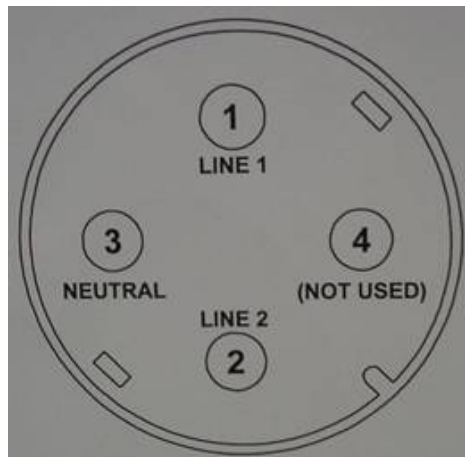

Figure 7 – Generator Receptacle Pin-Out. Verify mating plug matches
- 3.1 Connect portable generator connector to the side input of the PPC (see Generator Receptacle pin layout in Figure 7 below).